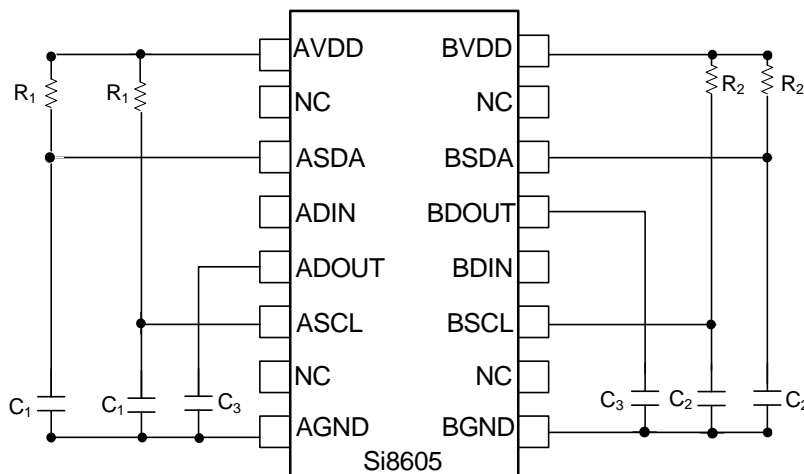
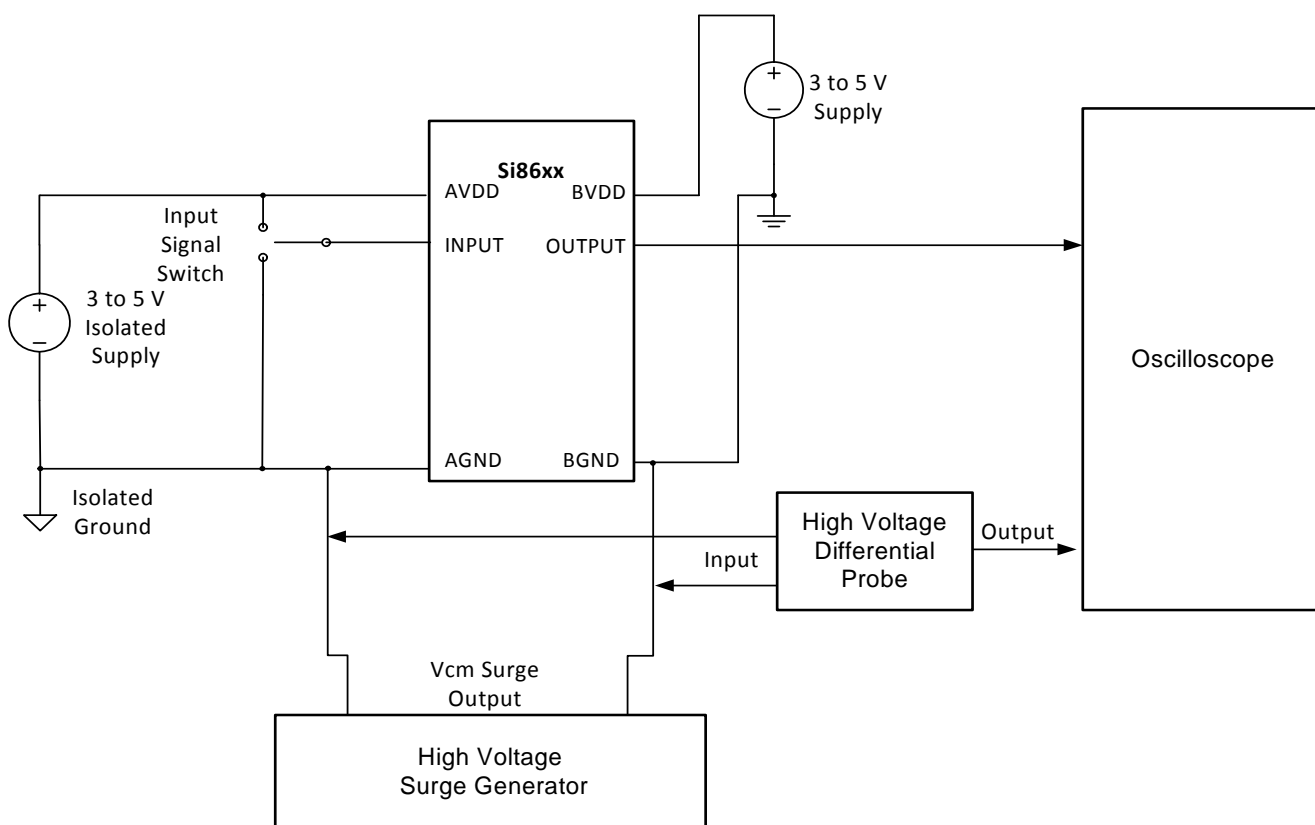

Figure 2. Simplified Timing Test Diagram
Figure 3. Common Mode Transient Immunity Test Circuit
3.0 V &lt; VDD &lt; 5.5 V. TA = -40 to +125 °C. Typical specs at 25 °C (See Figures 2 and 10 for test diagrams.)
Figure 2 depicts the timing test diagram; Figure 3 depicts the CMTI test diagram.